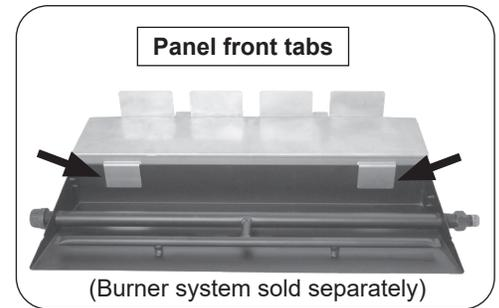

Fig. 1-1 Hook tabs to back of burner pan
1. Hook the flame enhancer panel's front tabs onto the back of the burner pan. Ensure the panel is centered to the burner. See Fig. 1-1.